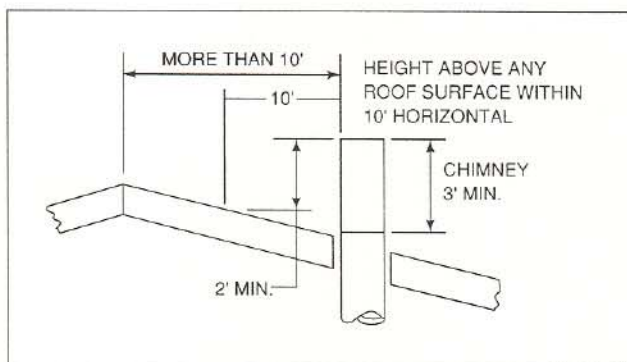

Figure 11
- If the horizontal distance from the side of the chimney to the peak of the roof is more than 10 feet, a chimney height reference point is established on the surface of the roof a distance of 10 feet from the side of the chimney in a horizontal plane. The top of the chimney must be at least 2 feet above this reference point, but never less than 3 feet in height above the highest point where it passes through the roof. See Figure 11.